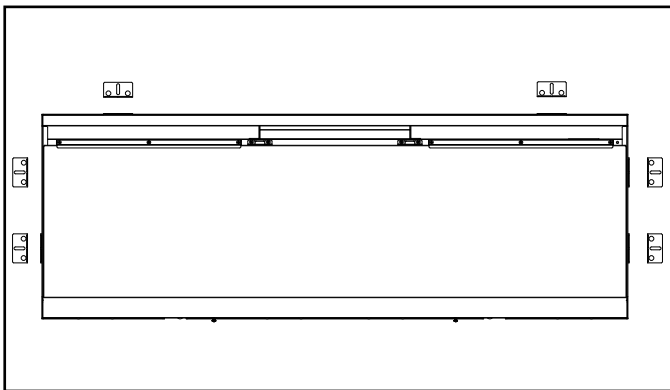
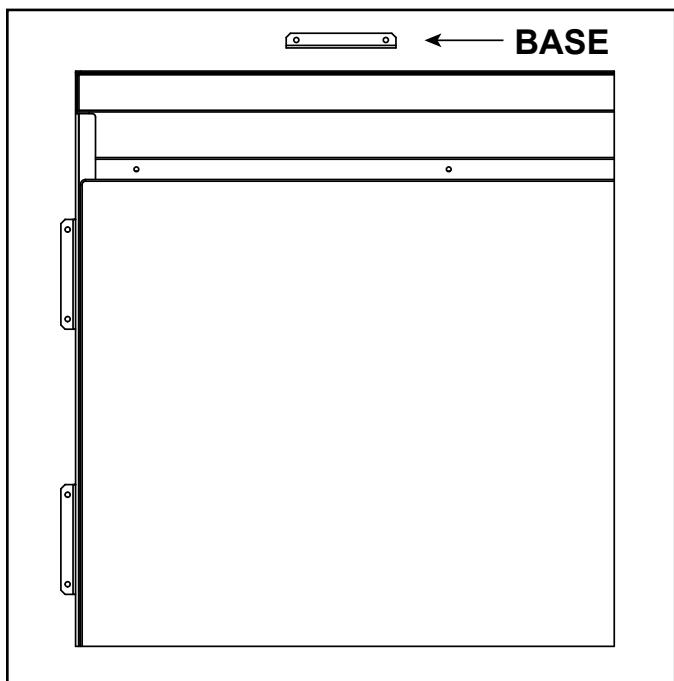

Figure 9 Remove Framing Brackets
Figure 10 Base of Two-Piece Brackets Installed
2. Remove the six (6) framing brackets from the sides and top of the appliance. See Figure 9. Replace with the base of the included two-piece brackets and two (2) ST4x8 screws at each location. See Figure 10.